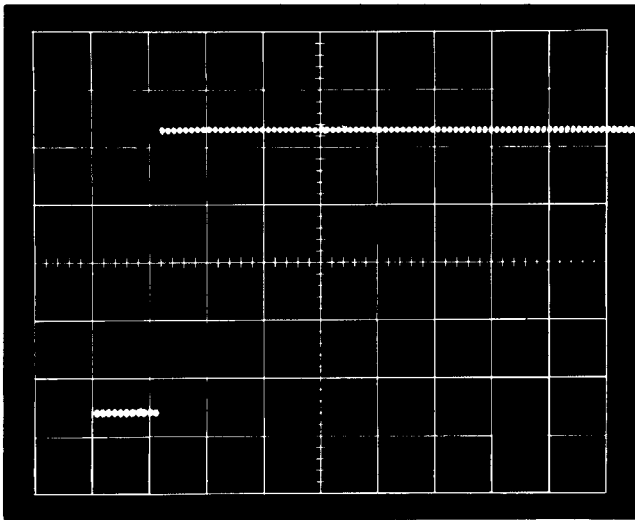

Fig. 7-3. Showing Dot Slash  $\leq 0.1$  DIV at 20 Hz (time exposure).
d. Change the repetition rate of the Type 106 to 20 Hz, and observe that the vertical excursion of the dot is  $\leq 0.1$  division. See Fig. 7-3.